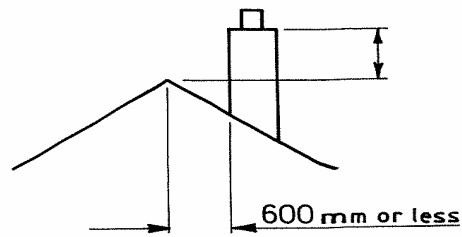

Figure 2
- b) The Building Regulations stipulate minimum heights that chimney stacks should be constructed. State the minimum heights of the chimney stacks shown in figures 2 and 3 below.